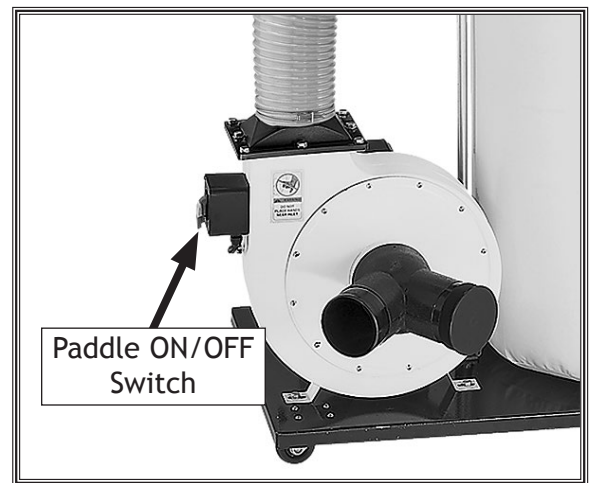

Figure 18. Paddle ON/OFF switch location.
3. Make sure the paddle ON/OFF switch (see **Figure 18**) is pushed down—this ensures the machine will not unexpectedly start when connected to power.